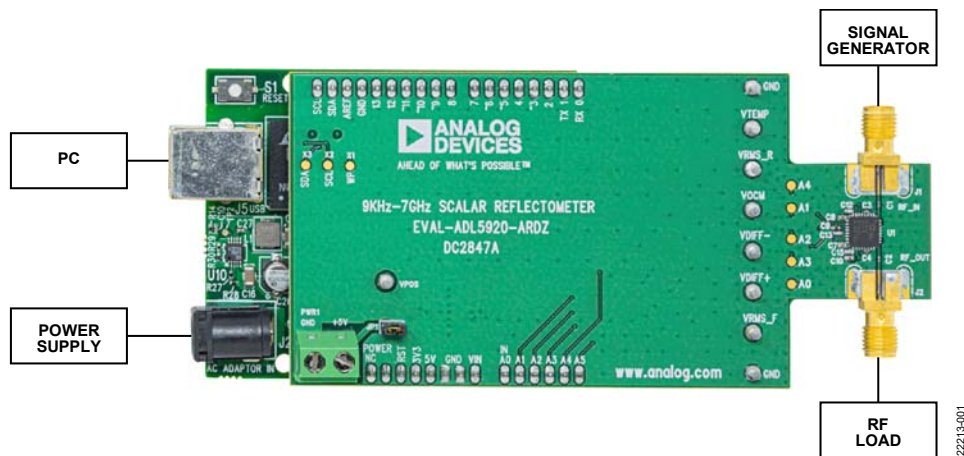

Figure 1.
2. Short JP1 and connect the wall power supply included in the evaluation kit to the DC2847A-KIT. See Figure 1 for connection details.
3. Connect the PC to the DC2847A-KIT with a USB cable. See Figure 1 for connection details.
5. Connect the RF load to RF\_OUT on the DC2847A-KIT. For a minimal reflection condition, the 50 Ω RF load is matched to the ADL5920 output. See Figure 1 connection details.